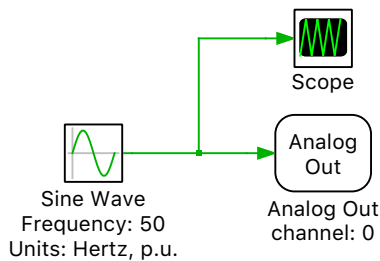

Figure 2: An analog output channel with a sinusoidal input
- 1 Create a new model and place an Analog Out component from the RT Box target library onto your schematic. Connect a Sine Wave Generator with an amplitude of 1 and a frequency of 50 Hz to the Analog Out component. Set the analog output to channel 0. Leave all other Sine Wave Generator and Analog Out component values as their defaults. Include a Scope component from the PLECS library to view the signal. Your schematic should look like Figure 2. Run the simulation and save the model.